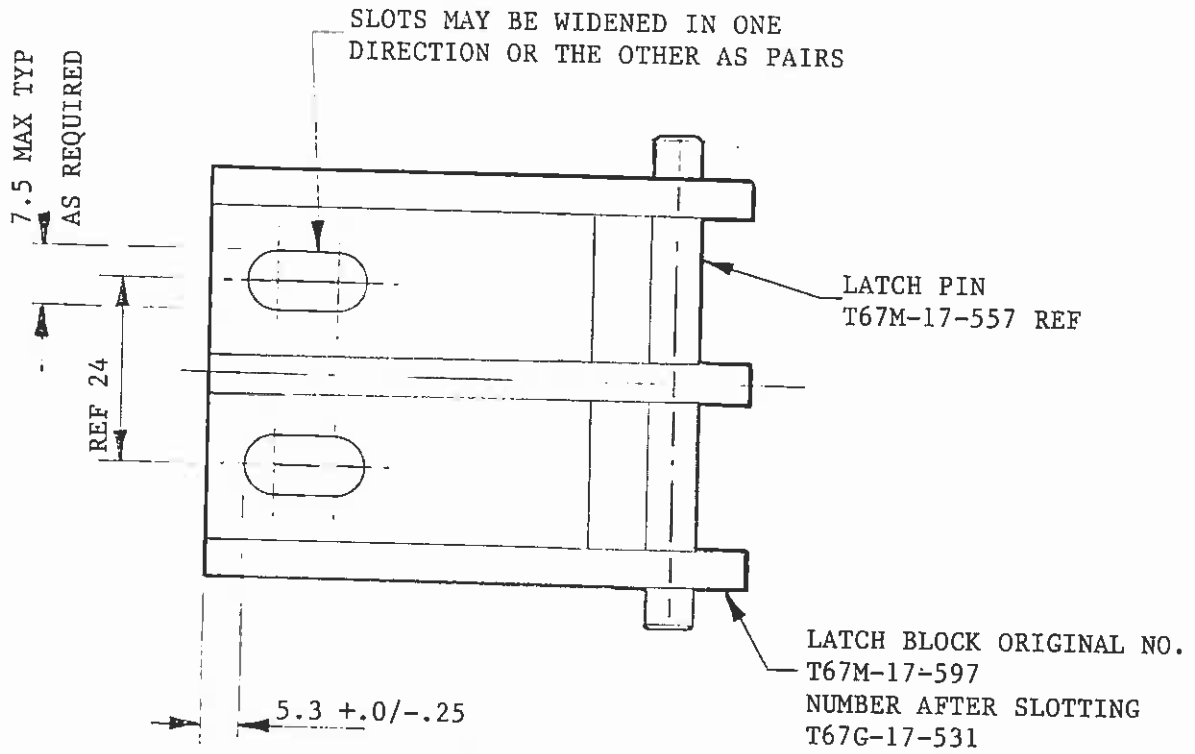

FIG 3
- (iv) If (ii) and (iii) cannot be met after adjustment, then it is acceptable to slot latch block Ref. Fig. 3. Suitably re-protect cut surfaces and re-identify block as Part Number T67G-17-531 Post Mod M713B. Annotate Logbook accordingly.